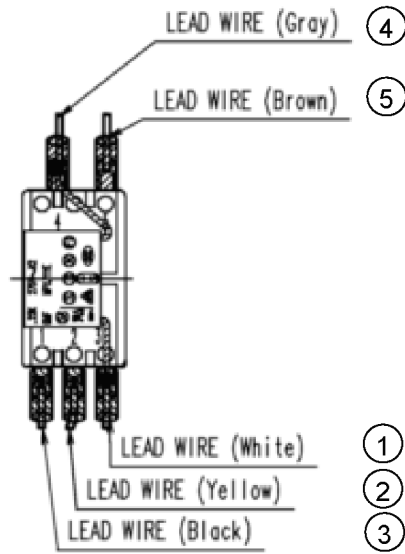

Figure 12
1. Install Lead wires with Main switch and Capacitor as figure 12.